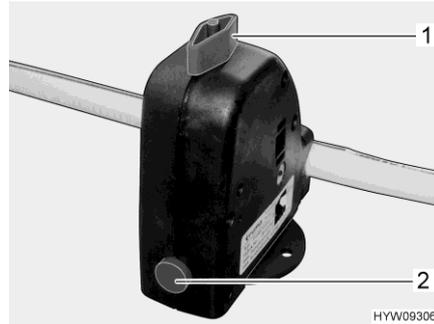

Fig. 108 Safety/drainage valve (boiler)
The boiler is equipped with a safety/drainage valve (Fig. 108). The safety/drainage valve prevents water in the boiler from freezing, when there is frost and the heater is not switched on.
- Close the safety/drainage valve. Turn the knob (Fig. 108,1) perpendicular to the safety/drainage valve and push the push button (Fig. 108,2) in.
- Open the safety/drainage valve. To do this turn the knob (Fig. 108,1) parallel to the safety/drainage valve. The push button (Fig. 108,2) jumps out. The boiler is drained to the outside by the safety/drainage valve.